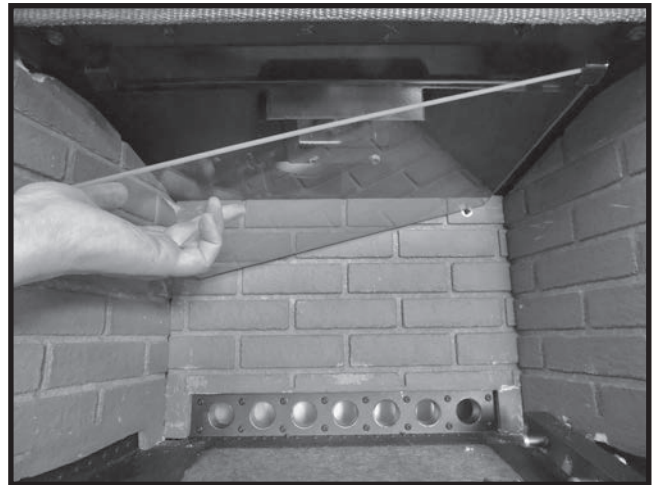

Figure 31: Inserting baffle into the upper corner.
1. With the door removed, place one end of the baffle over one of the two upper corners so that the baffle is resting on a rear peg and a front support (Figure 31).